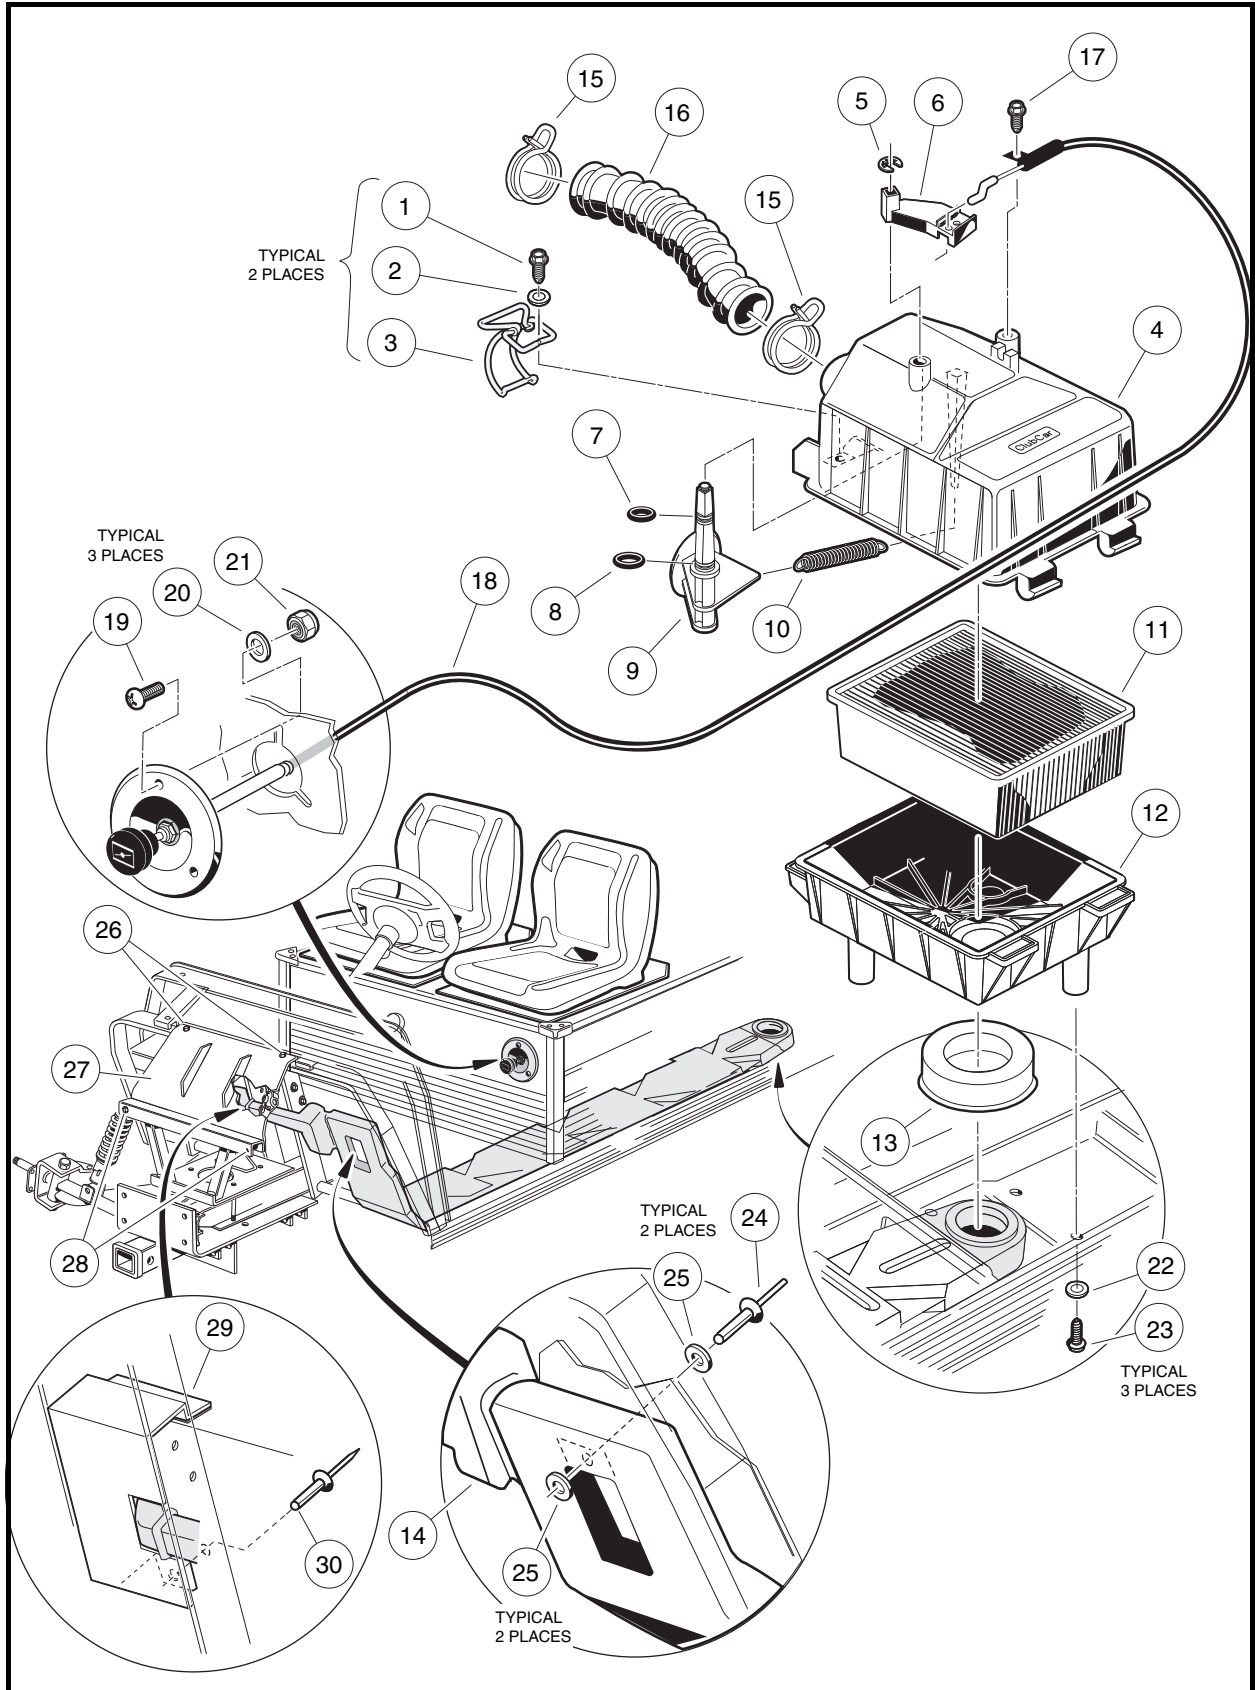
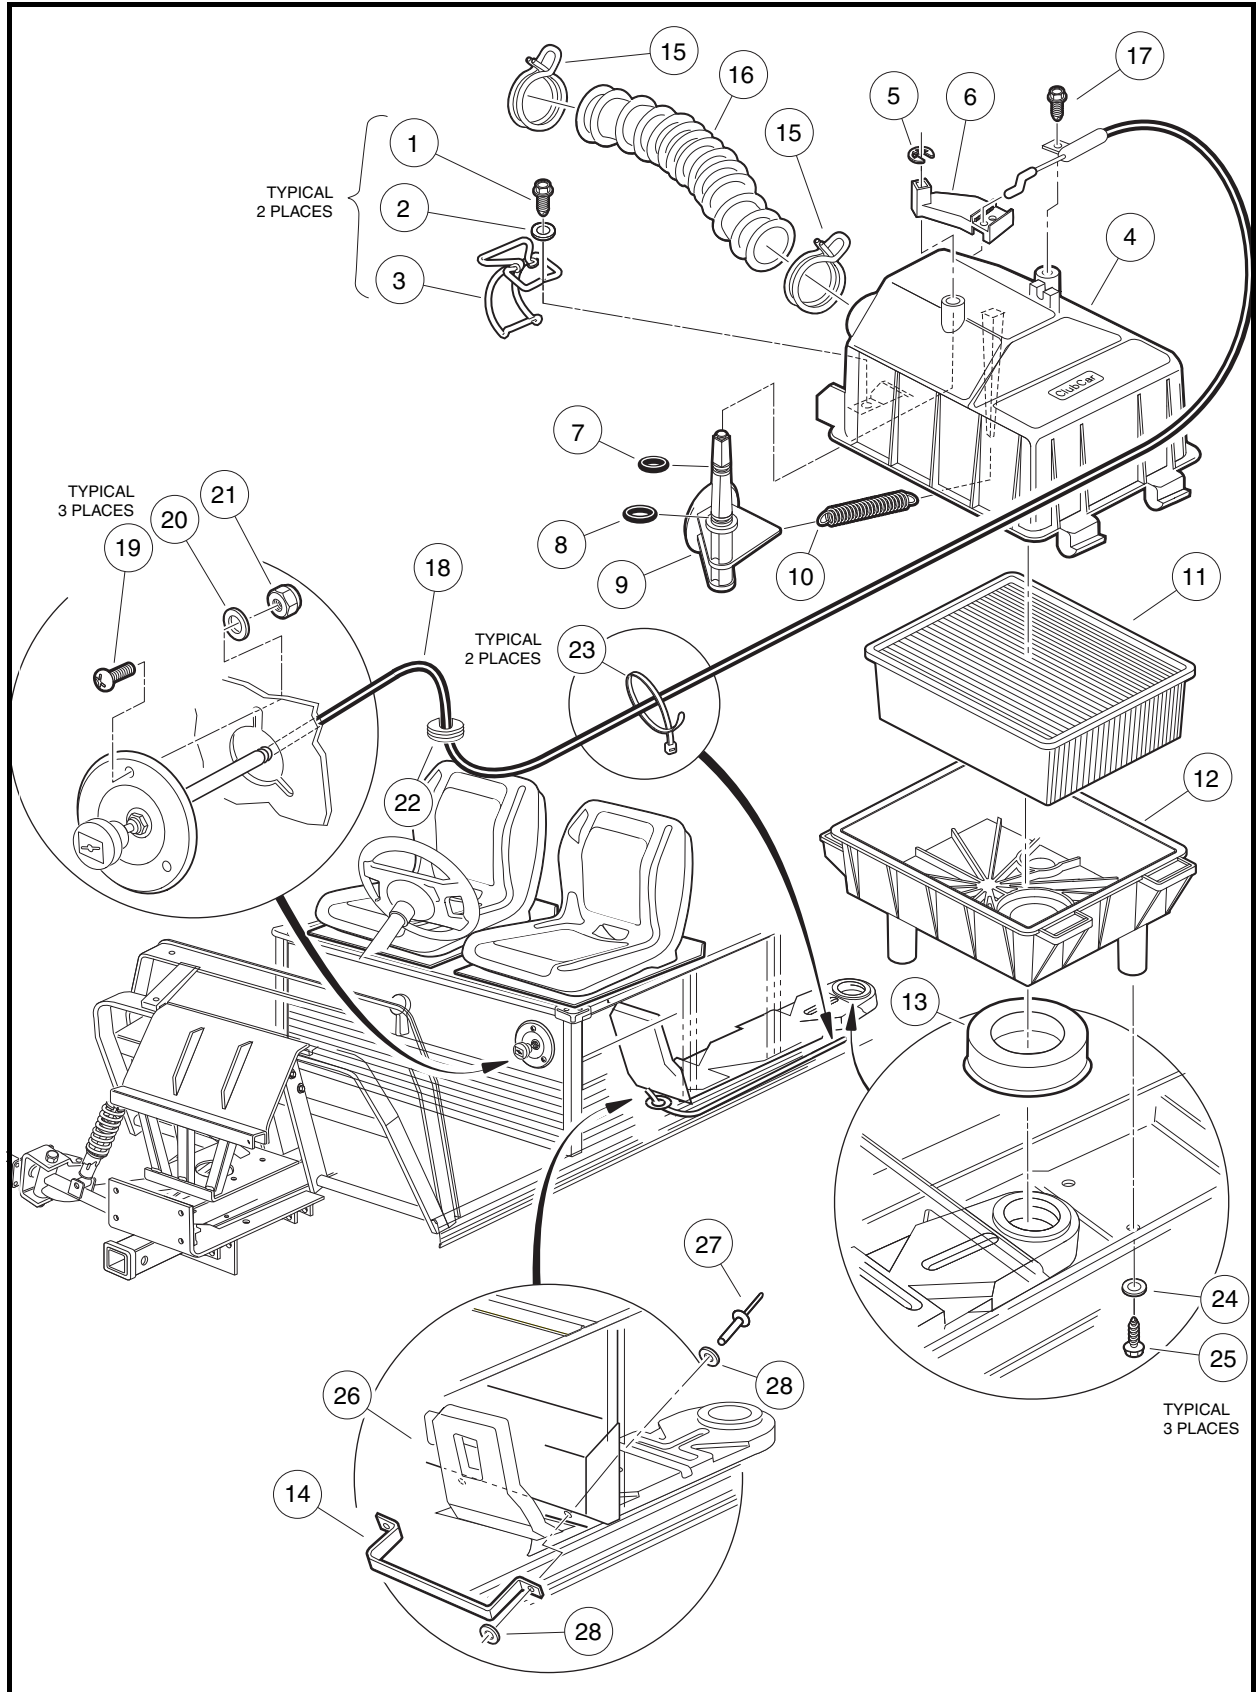

Figure 14-10 Turf 272/Carryall 272/XRT 1200 Air Intake and Choke Assemblies
Figure 14-11 Carryall 472/XRT 1200 SE Air Intake and Choke Assemblies
2. Remove the screw (17) securing cable to air box and detach cable end from choke lever (6) (**Figure 14-10, Page 14-15 or Figure 14-11, Page 14-16**).
3. Remove three screws (19), nuts (21) and washers (20) from body and remove choke cable assembly from body.
- 4.1. Cut wire tie (23) around cable and air duct (**Figure 14-11, Page 14-16**).
2. Install three screws (19), washers (20), and locknuts (21) (**Figure 14-10, Page 14-15 or Figure 14-11, Page 14-16**). Tighten to 18 in-lb (2.0 N·m).
4. Attach choke cable to choke lever (6) on air box top (4) and install screw (17) to secure cable to air box. Tighten screw to 18 in-lb (2.0 N·m).
- 5.1. Attach a new wire tie (23) around the cable and air duct (**Figure 14-11, Page 14-16**).
2. Remove choke cable bracket screw (17) and cable (18) from air box top (4) (**Figure 14-10, Page 14-15 or Figure 14-11, Page 14-16**).
- 3.1. Remove air intake box (12) from the vehicle by removing hose clamp (15), intake hose (16), three screws (23) and washers (22) (**Figure 14-10, Page 14-15**).
- 4.1. Remove air intake box (12) from the vehicle by removing hose clamp (15), intake hose (16), three screws (25) and washers (24) (**Figure 14-11, Page 14-16**).
1. Check to be sure the intake seal (13) is tightly seated (**Figure 14-10, Page 14-15 or Figure 14-11, Page 14-16**). The seal fits tightly onto the bottom side of the air box. If seal is not in place, moisture will enter the air intake system.
- 2.1. Place air box assembly into vehicle and install three flat washers (22) and screws (23) from underside of air box mounting plate into air box (12) (**Figure 14-10, Page 14-15**). Tighten to 33 in-lb (3.7 N·m).
- 3.1. Place air box assembly into vehicle and install three flat washers (24) and screws (25) from underside of air box mounting plate into air box (12) (**Figure 14-11, Page 14-16**). Tighten to 33 in-lb (3.7 N·m).
- 2.8. Remove the two bolts (26), locknuts and flat washers that secure the top of the strap plate (27) to the vehicle frame (**Figure 14-10, Page 14-15**).
- 2.13. Drill out the pop rivet (24) securing the top of the intake duct to the floorboard (**Figure 14-10, Page 14-15**).
- 3.1. Remove the air box assembly (**Figure 14-11, Page 14-16**). **See Air Box Removal on page 14-12.**
2. Secure the front of the duct to the underside of the floorboard with pop rivet (24) and flat washers (25) (**Figure 14-10, Page 14-15**).
4. Install the shield to the frame with the adhesive strip and pop rivet (30).
- 6.1. Attach each of the front A-arms to the shock tower at the top shock mount and bottom hole locations of the strip plate (27) using bolts (28) and locknuts. Do not tighten (**Figure 14-10, Page 14-15**).
- 7.2. Attach strap (14) on each end with 3/16-inch x 1/2-inch pop rivets (27) and washers (28) (**Figure 14-11, Page 14-16**).
2. Lift two latches (3) on the side of the air box (**Figure 14-10, Page 14-15 or Figure 14-11, Page 14-16**).
3. Remove the hose clamp (15) from the air hose and remove hose from the air box assembly.
4. Stand on the driver side of vehicle, grasp air hose mounting inlet and open and remove filter element (11).
7. Fasten wire latches (3) and make sure latches securely engage the bottom half of the box. **See following CAUTION.**
8. Install hose (16) and hose clamp (15) and make sure clamp ends are located in the 12:00 o'clock position (**Figure 14-10, Page 14-15 or Figure 14-11, Page 14-16**).